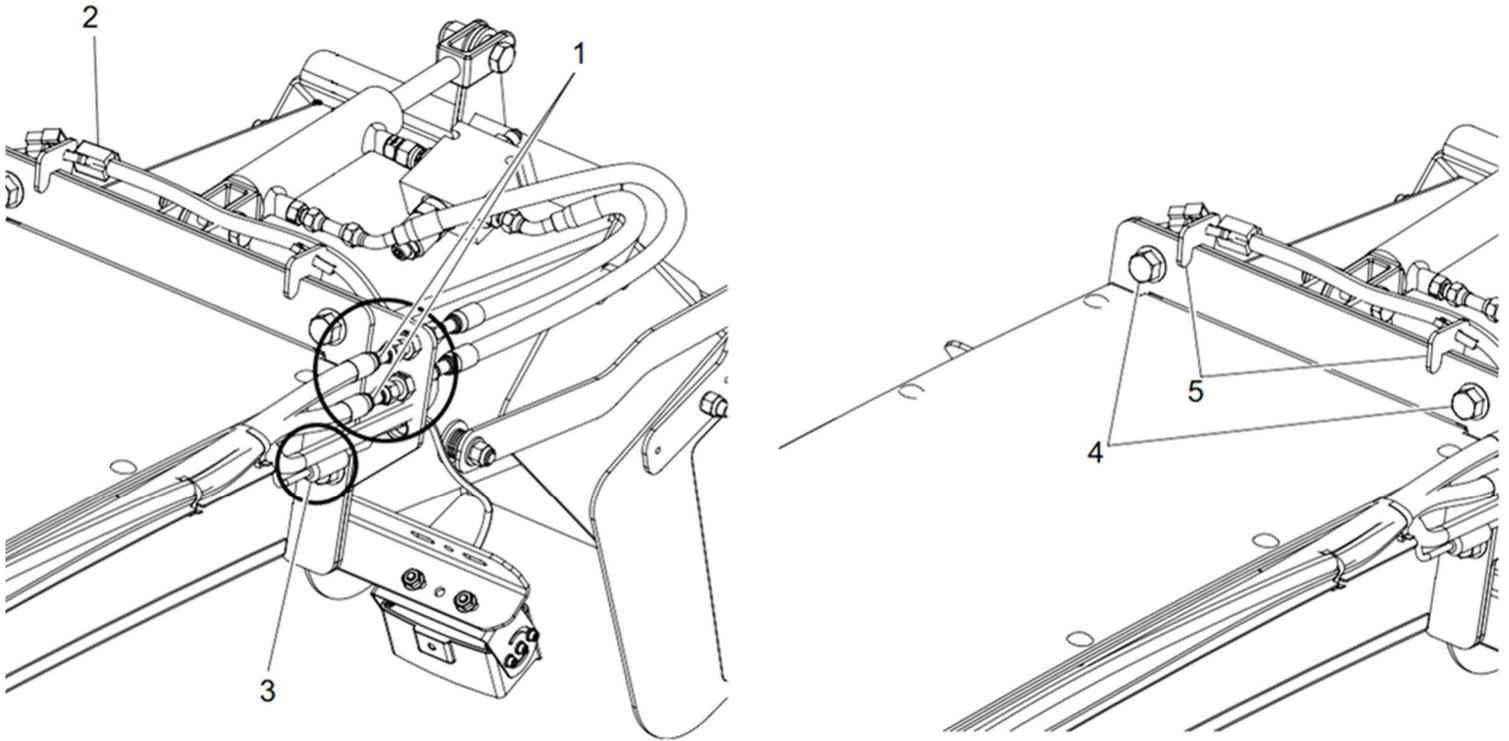

Figure 52 Spout conversion
SPOUT EXTENSION REMOVAL**FIGURE 52**
2. Disconnect the hydraulic hoses (item 1), the electric cable of the deflector light (Item 2) and the camera (Item 3) Figure 52 Spout conversion.